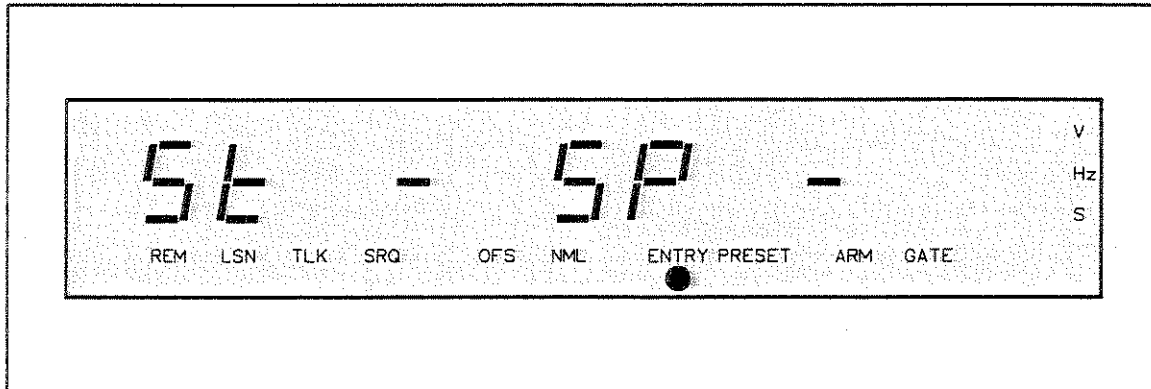
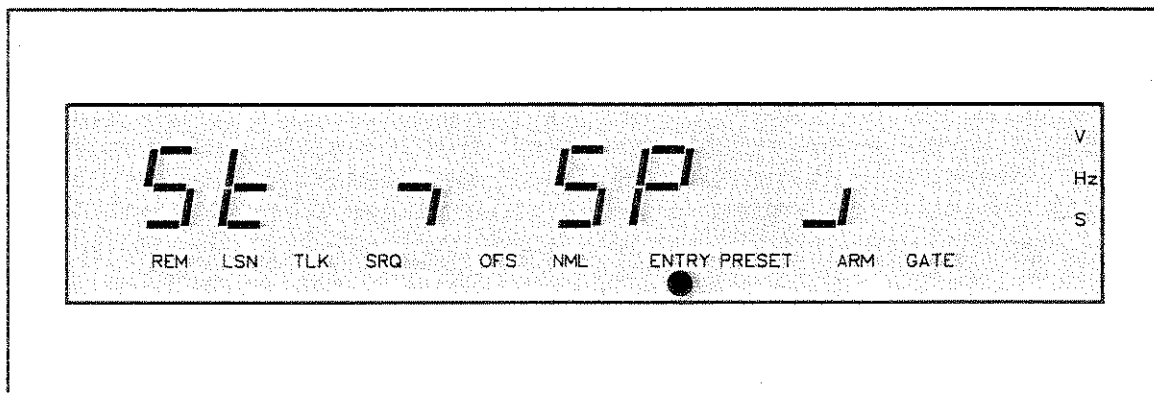

Figure 3-34. EXTERNAL ARM SELECT Entry Mode Display, Arming Off
Figure 3-35. EXTERNAL ARM SELECT Display, Arming States Selected
3-196. External arming can be used to specify the start and/or stop of a measurement, by a signal that is not directly involved in the measurement. When external arming is enabled, a signal must be connected to the ARM input connector to arm the gate to open and/or close. Pressing the EXT ARM SELECT key displays the arming status, shown in Figure 3-34, and allows the START ARM (open gate) and/or STOP ARM (close gate) states to be changed.
3-197. The arming status is represented as "St" (START ARM) and "SP" (STOP ARM). The states are defined by " - " (arming off), shown in Figure 3-34; and " 7 " (arming set on negative slope), and " J " (arming set on positive slope) as shown Figure 3-35 slope). The channel A SLOPE key controls the START ARM, and the channel B SLOPE key controls the STOP ARM.
2. The counter displays, “St” for start arm, “SP” for stop arm, and the current start/stop arm states (see *Figure 3-35*).
3. The ENTRY light flashes, indicating the arming states may be changed (see *Figure 3-35*).
*Figure 3-35* shows the EXT ARM SELECT entry mode display, with the START ARM set negative, and the STOP ARM set positive.